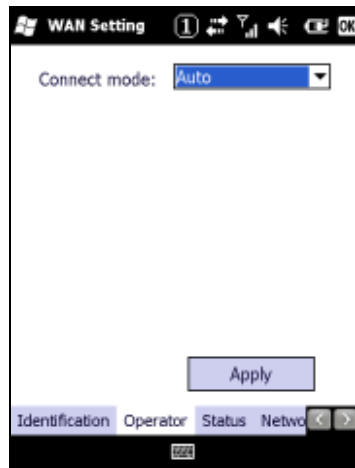

Figure 3-92
1. Choose your suitable operator in **Connect mode** field (see Figure 3.92) to establish connection with the terminal by enumerating in **Operator** tab.